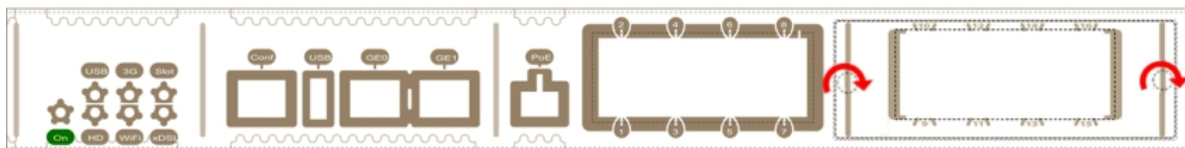

Fig. 13: Reposition the cover on SLOT 1
- (7) Insert the expansion board and connect it. This operation must be carried out carefully, without forcing any piece or part of the device.
- (8) Screw in the board. Firmly tighten the screws without damaging the board.
- (9) Reposition the expansion slot cover and screw it down. Please see Fig. 13 on page 11.